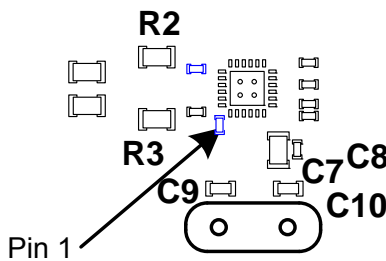

Figure No. 3
2. These caps are shown as C7 & C8 in Figure No. 3 below.
1. Place the 25.000 MHz crystal and the associated 15 – 33 pF capacitors as close together as possible and as close to the LAN8720 QFN (XTAL1, pin 5 & XTAL2, pin 4) as possible. They should form a tight loop. Keep the crystal circuitry away from any other sensitive circuitry (address lines, data lines, Ethernet traces, etc.). Refer to Figure No. 3 for crystal component placement (C9 & C10).